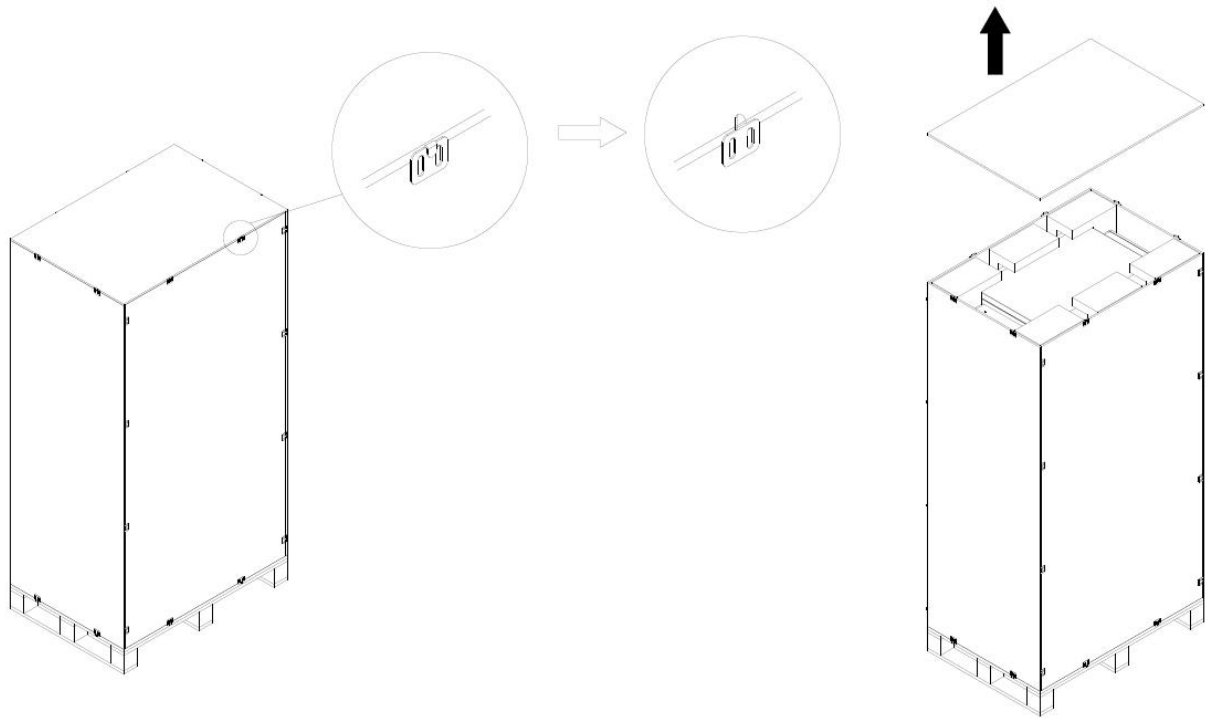

Figure 4
- Use a claw hammer to straighten the metal card and remove the head cover, as shown in Figure 4.